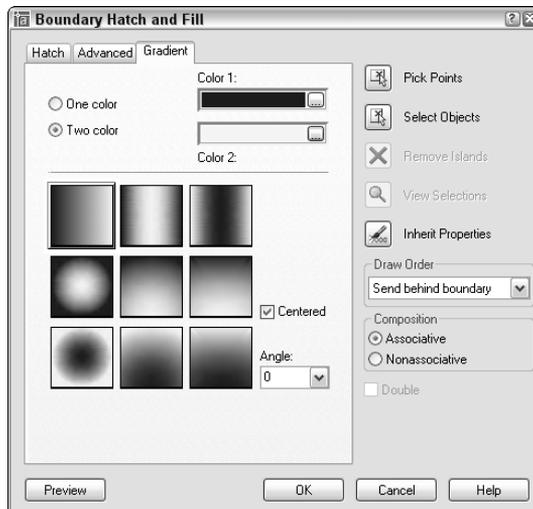

Figure 16-23: Use the Gradient tab of the Boundary Hatch and Fill dialog box to create gradient fills of closed objects.
2. Click the Gradient tab, shown in Figure 16-23.